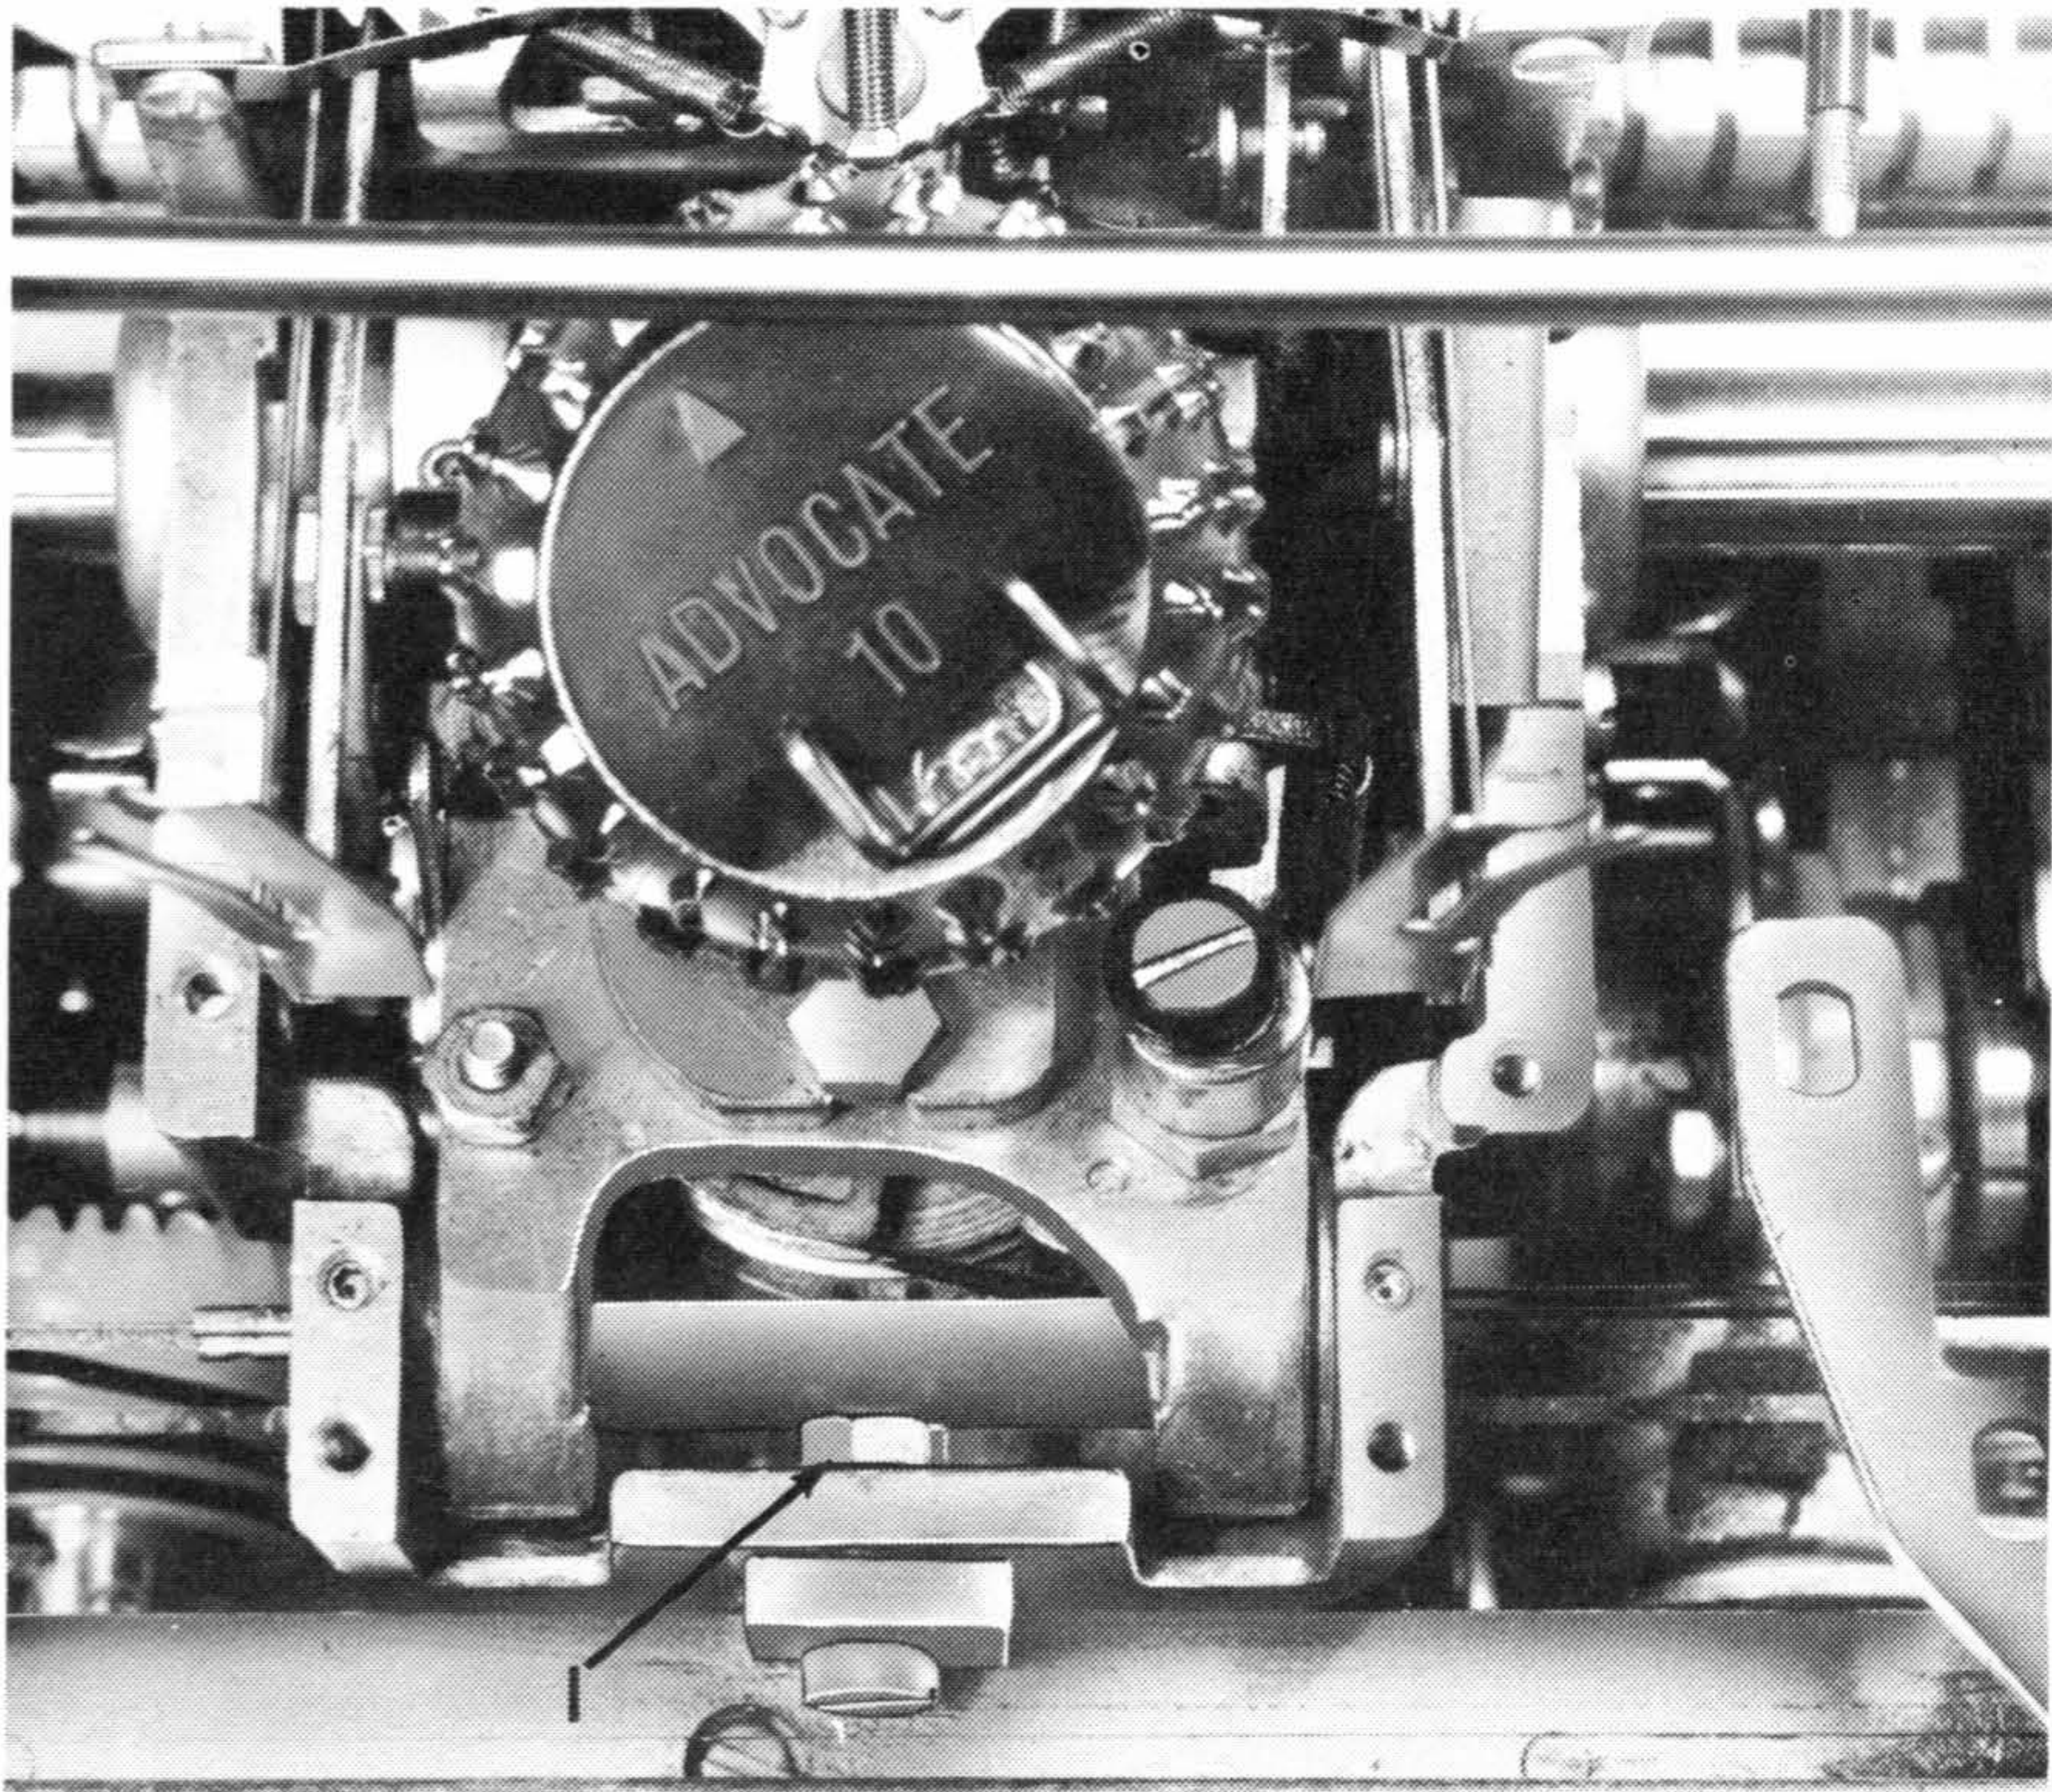

Figure 53. Carrier Shoe Removal
4. Remove the nut from the carrier-shoe stud and remove the shoe (#1, Figure 53).